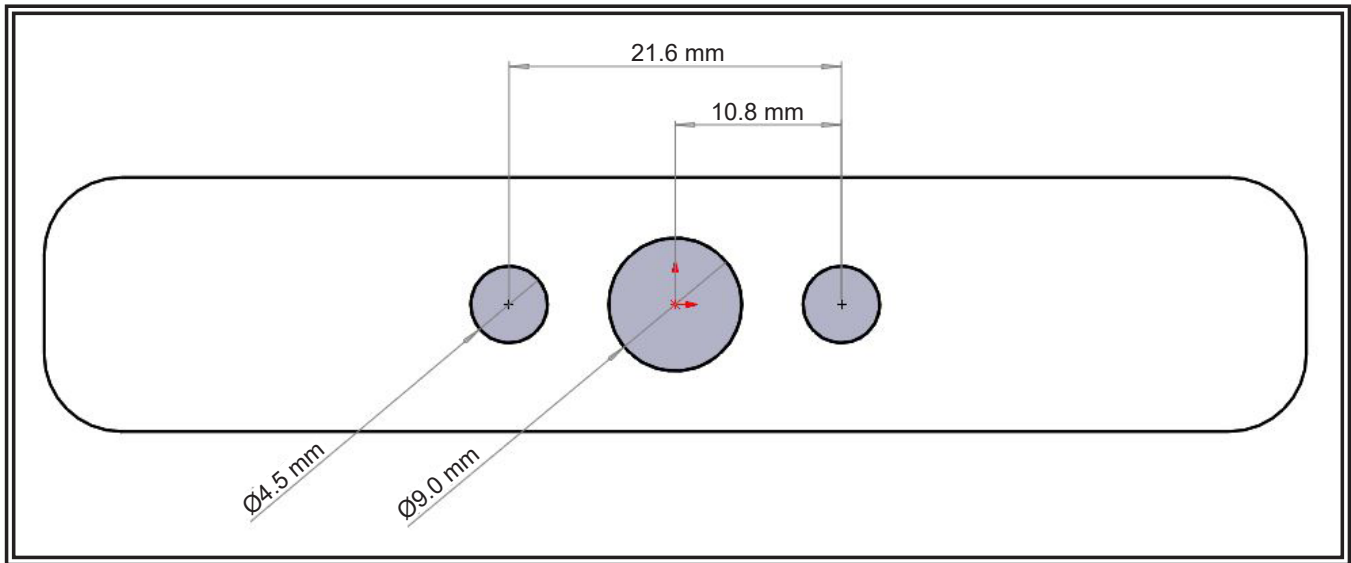

Figure 5
Step 2. Using the short gasket as a template, mark two holes on a flat mounting surface for stud insertion, and a third center hole for cable routing. Drill the two stud through holes using a 4.5mm or #16 bit. Drill the center hole using a 9mm or T-bit. See Figure 5.